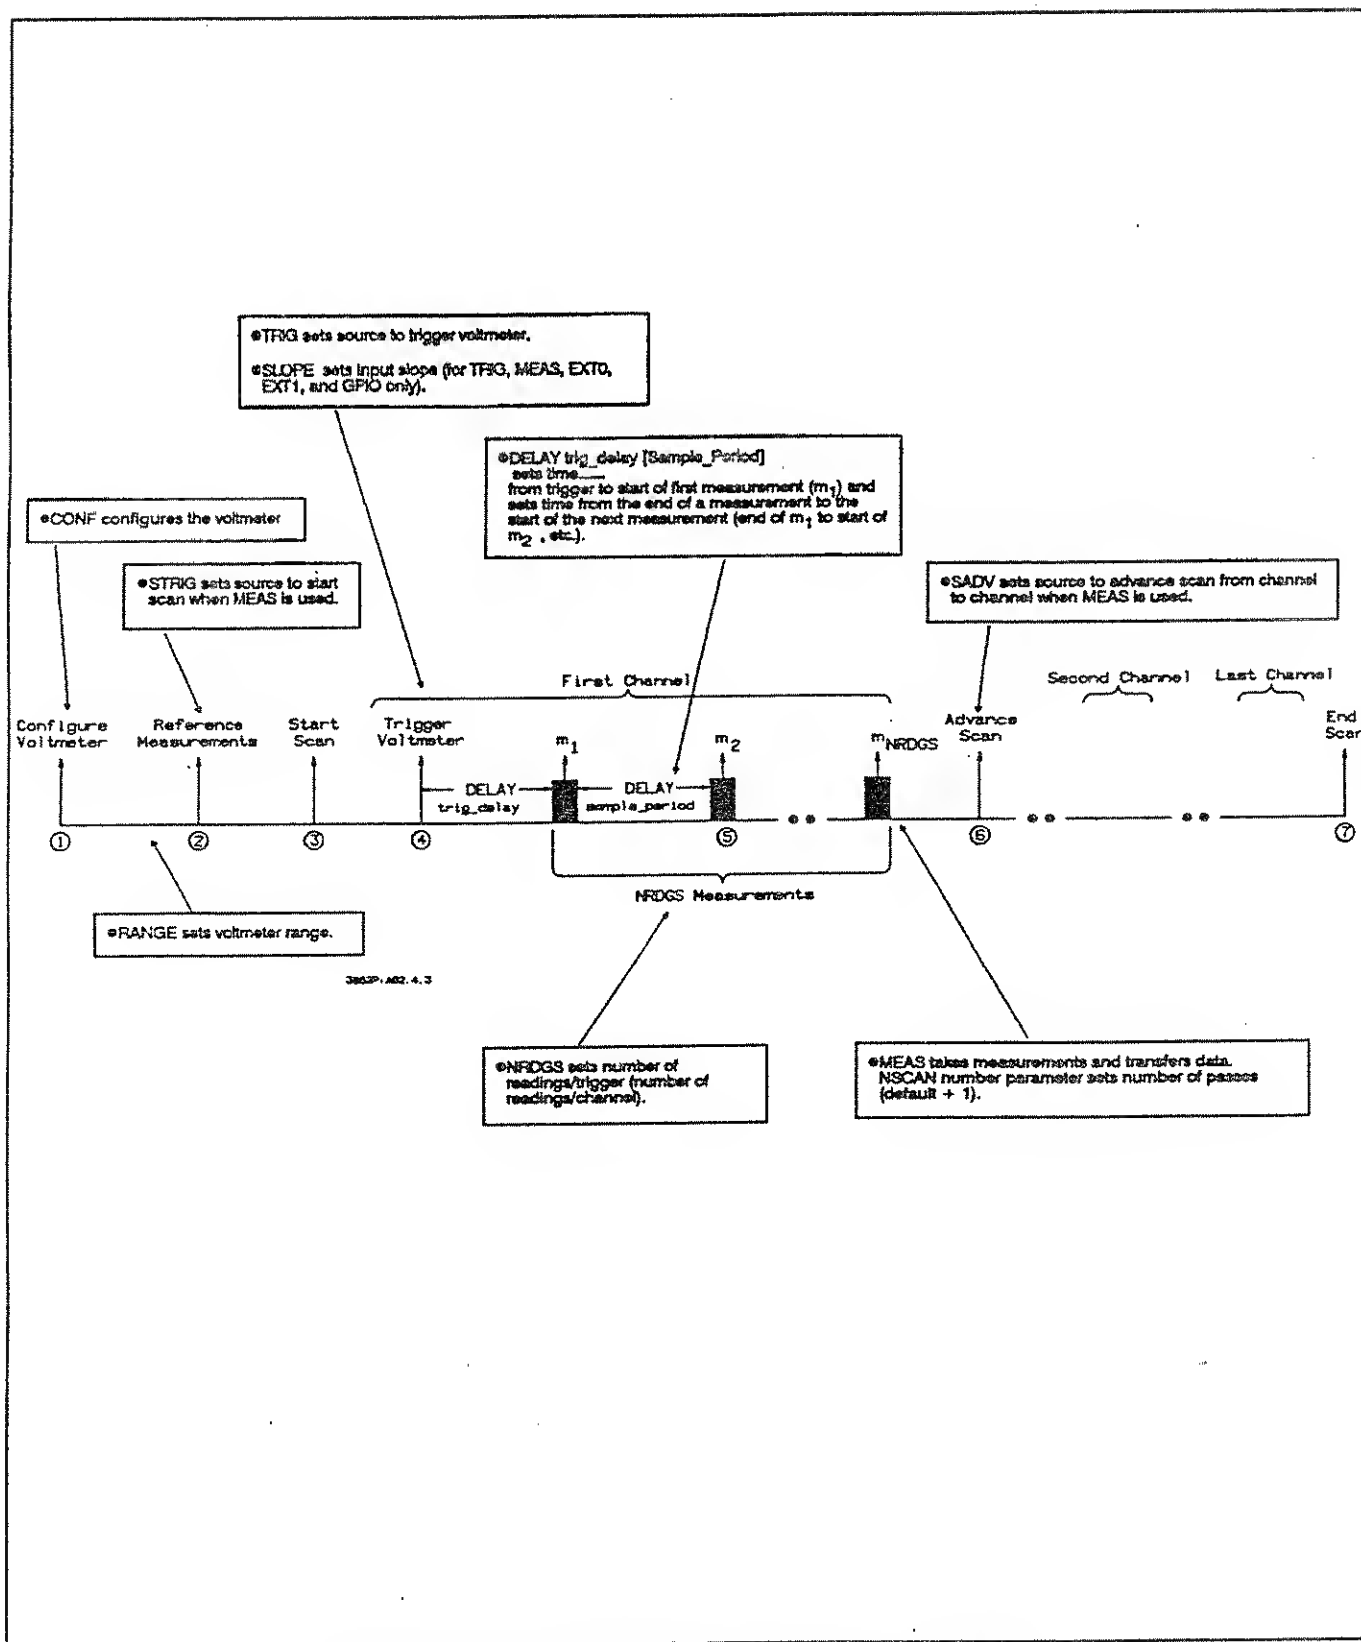

Figure 4-3. CONF and MEAS (System Mode) Operation
Figure 4-3 shows voltmeter operation when CONF and MEAS are used in System Mode and also shows how seven low-level commands (DELAY, NRDGS, RANGE, SADV, SLOPE, STRIG, and TRIG) can be used to modify voltmeter settings). (Note that CONF does not change the previous setting of SLOPE.) A summary of voltmeter operation and the related commands shown in Figure 4-3 follows.
As shown in Figure 4-3, since the voltmeter makes NRDGS *number* readings on each channel in the channel list, the total number of readings taken is the number of channels in the channel list times the number of readings per trigger times NSCAN.
- Setting Measurement Delays (DELAY)** CONF sets a 1 msec delay from the trigger to the first measurement on each channel and sets a 10 μ sec period between each measurement (such as m_1 to m_2 in Figure 4-3). For System Mode (only) both the delay and the sample period can be changed with the DELAY command.
- For example, DELAY 0.01,1 sets a 10 msec delay from the trigger to the first measurement, and sets a 1 second period from the start of a measurement to the start of the next measurement on the channel (such as m_1 to m_2 in Figure 4-3).